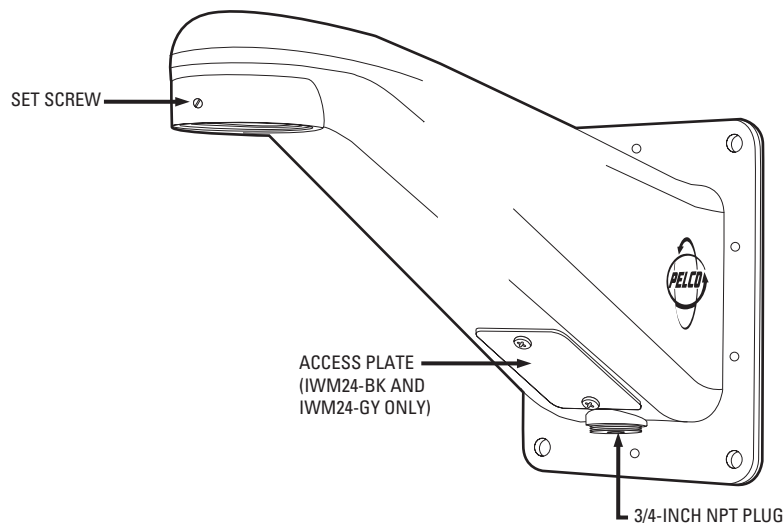

Figure 1. IWM24 Series Mount
1. Loosen the two Phillips pan-head screws, and remove the access plate from the bottom of the mount arm. Refer to Figure 1.